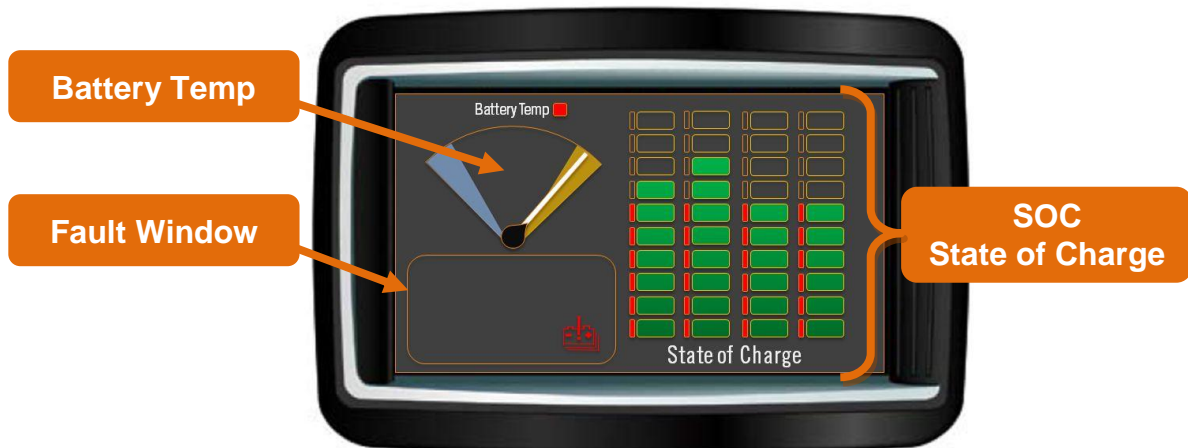

Figure 5.6
- The EVIS Display in Charge Mode – Faults/Warnings (Figure 5.6)